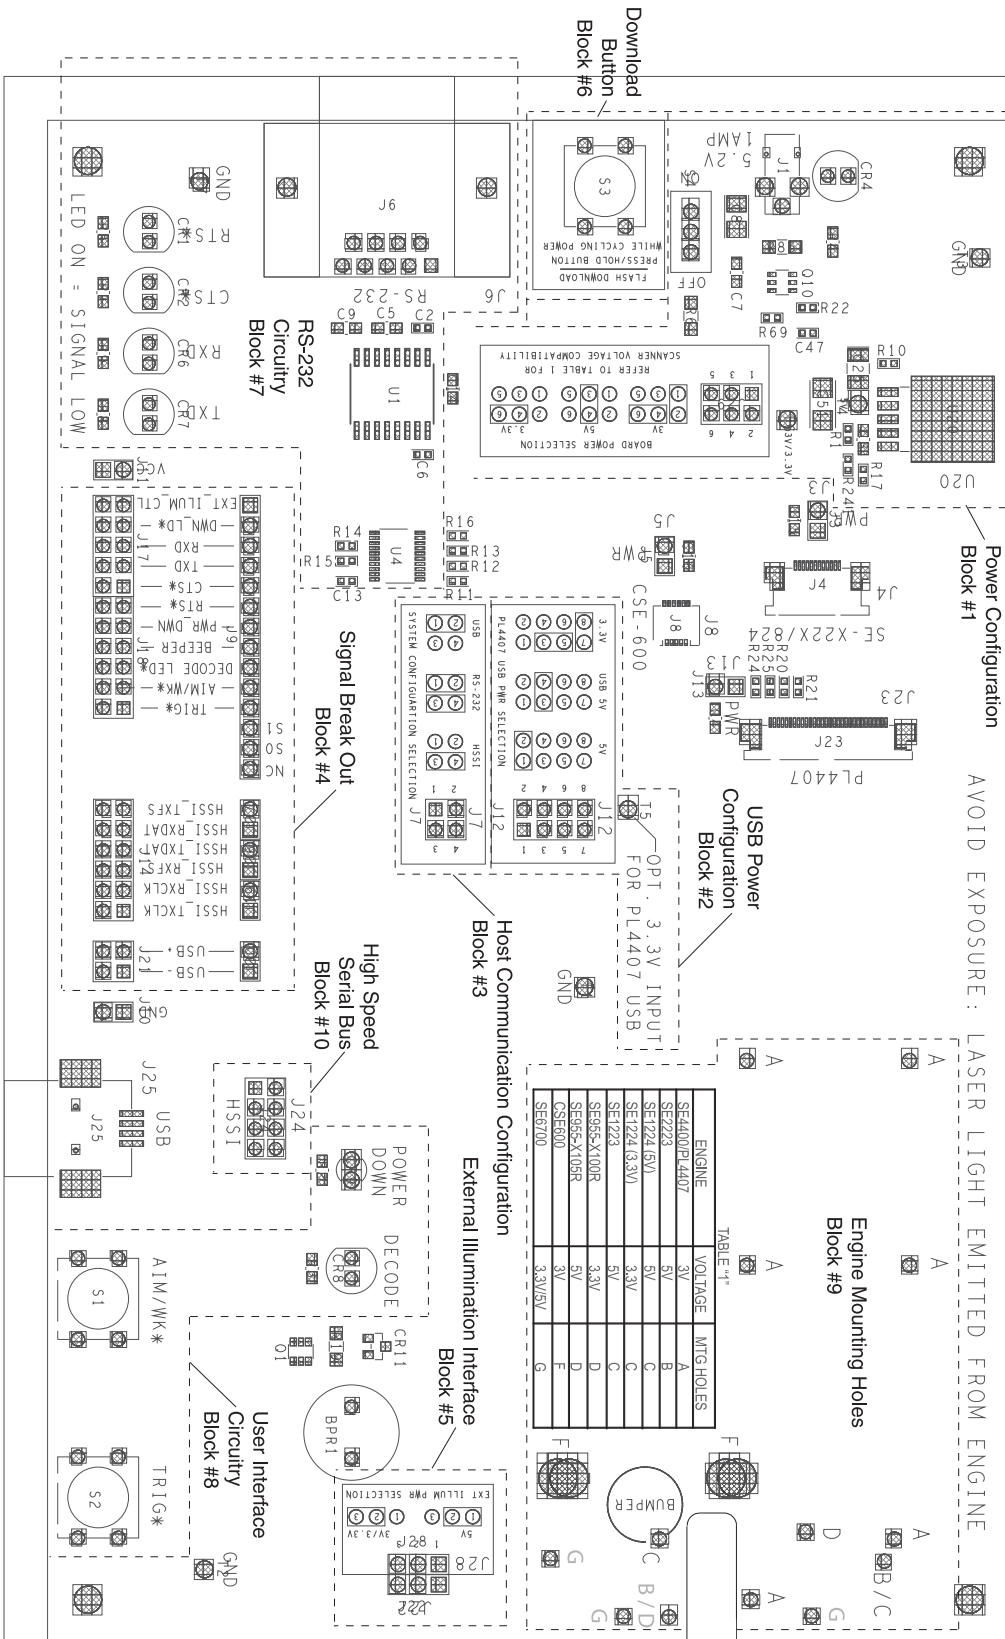

Figure 1-3 Universal Development Board Assembly
3. Determine the voltage requirements for the engine. See Table "1" in Figure 1-3 on page 1-7, which is silk-screened on the board, or see Table 2-1 on page 2-2.
The following sections detail the specific components on the board. Figure 1-3 on page 1-7 indicates each component or group of components on the assembly in outlined areas, by block number.